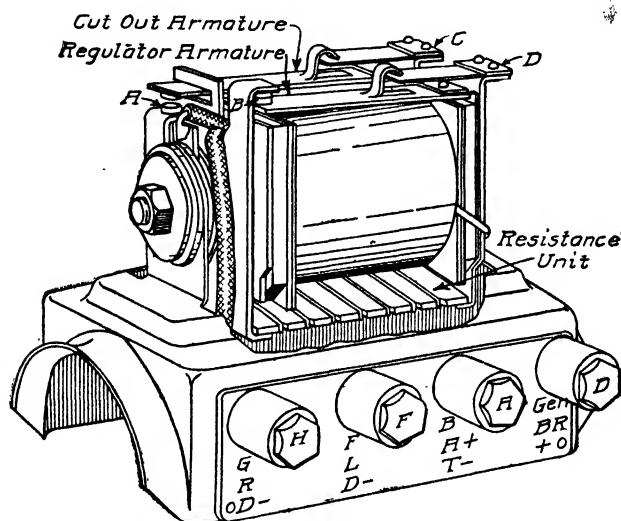

Fig. 292. Heinze-Springfield Current Regulator and Battery Cut-Out
**Generator.** The generator is of the multipolar shunt-wound type (four poles) with brushes spaced 90 degrees apart, bringing both on the left side of the commutator to make them more accessible. The negative, or lower, brush of the generator, Fig. 291, is grounded to the brush holder, which, in turn, is grounded on the generator brush head. From the positive, or upper, brush a wire runs to the terminal GEN. BR.+ of the regulator and cut-out, Fig. 292. From this terminal, the charging circuit leads to the cut-out contacts and through the latter and the series winding to the terminal BAT+ of the regulator cut-out. As the negative brush of the generator is grounded, the negative terminal of the battery and one side of all the lights are grounded. One end of the generator shunt field is grounded inside to the generator frame. The other end comes out through the hole provided for it in the brush head, runs to the terminal FLD of the regulator cut-out, and thence to the contacts of the current regulator if they are closed, or through a resistance if they are open.
is mounted directly on the starting motor, Fig. 292. The regulator side of the relay consists of two contacts *B*, which are normally held together by spring tension so that the charging current does not exceed 10 to 12 amperes. When the voltage rises above a certain value owing to the increased speed of the engine, the regulator armature is drawn down, separating the contacts, and the current must then pass through the resistance unit shown beneath the coil. This keeps the charging current down to the value mentioned.
To adjust the regulator and cut-out; first adjust the regulator side, as the cut-out is dependent upon the regulator adjustment. Before starting the engine, remove the regulator and the cut-out cover, then remove the wire to the terminal "BAT+" and insert an ammeter in the charging circuit at this point, though if there be an ammeter on the dash, it may be used. Start the engine and run it very slowly. See that the regulator contacts are together, Fig. 292. At a speed equivalent to 6 miles an hour or over, the cut-out contacts *A* should close, and with the contacts at *B* closed, the ammeter should show a reading of 4 amperes. If contacts *A* do not close at this point, there may be too much tension on the spring, which may be remedied by bending the spring-holding support upward at *C*. Should the ammeter reading go above 10 to 12 amperes as the speed increases, this is due to the contacts *B* of the regulator not opening as they should. The tension of the armature spring of the regulator should then be lessened by bending the spring-holding support slightly upward at *D*. Note very carefully as the engine speed is decreased that there is enough spring tension on the cut-out armature to open